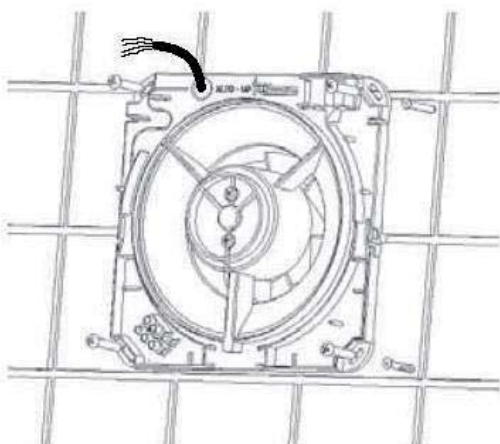

Figure 10
3. Fix the motor support at the evacuation hole with screws and raw plugs (Figure 10).